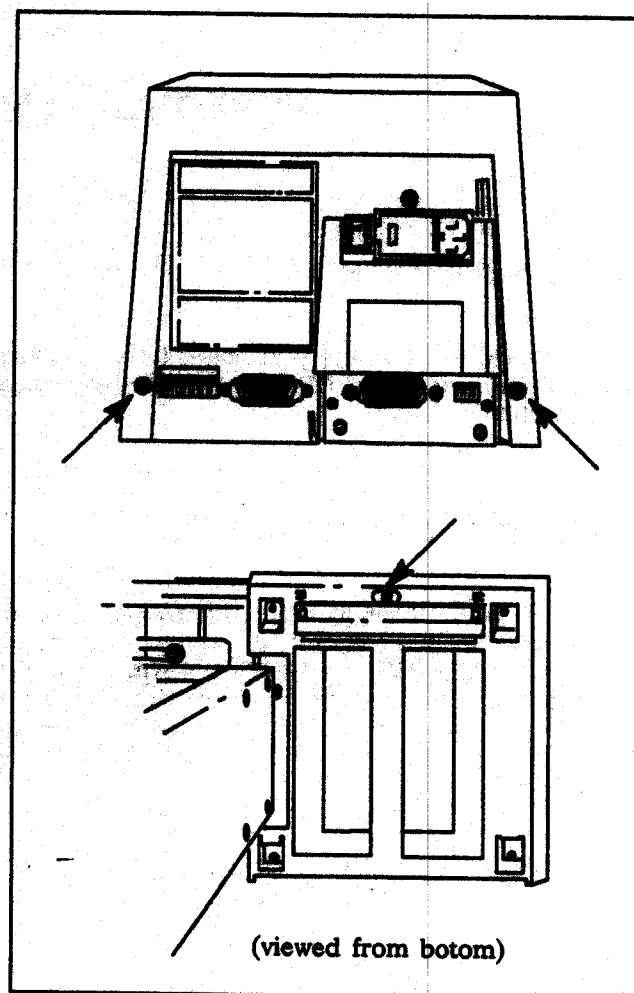

Figure 6-1. Right Chassis Cover Removal
- Turn OFF (0) the plotter and disconnect the ac line cord and the interface cable from the back of the right chassis.
- Remove the two machine screws from the lower back edge of the chassis cover. See Figure 6-1.
- Remove the machine screw centered under the front edge of the cover. See Figure 6-1.